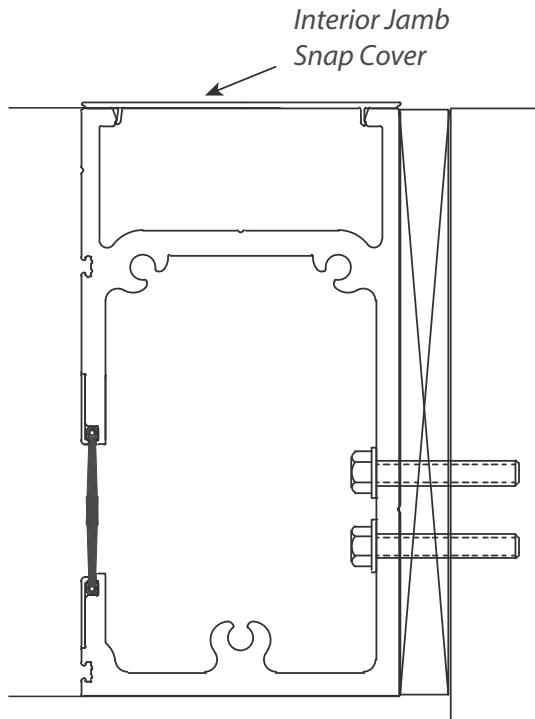

Figure 12.1
5.10. Install Interior jamb snap covers and head cap. (Figure 12.1)